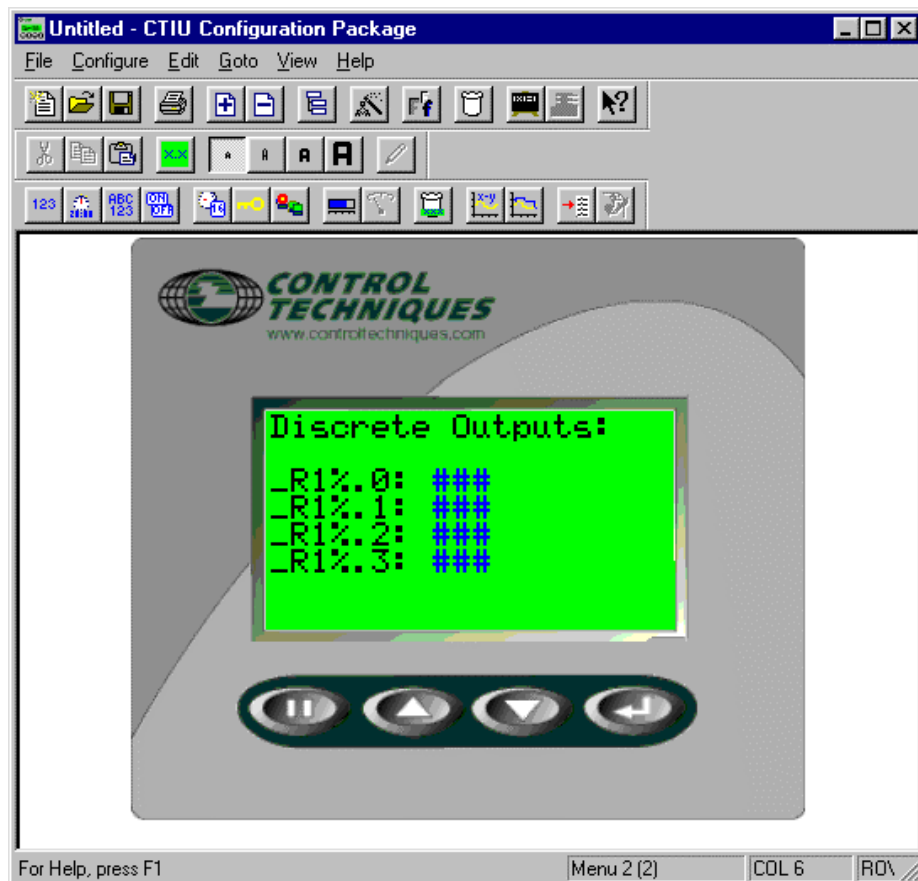

Figure 12.9 – Menu Page 2(2)
4. Do the same for _R1%.1, _R1%.2 and _R1%.3 on lines 4, 5 and 6, incrementing the Bit Number by one. These discrete outputs will simulate coils. Menu Page 2(2) should be the same as Figure 12.9.